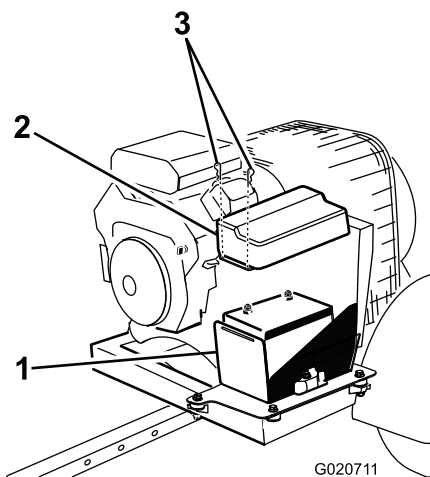

Figure 38
1. Remove the clips securing the battery cover to the battery box and remove the cover from the box (Figure 38).